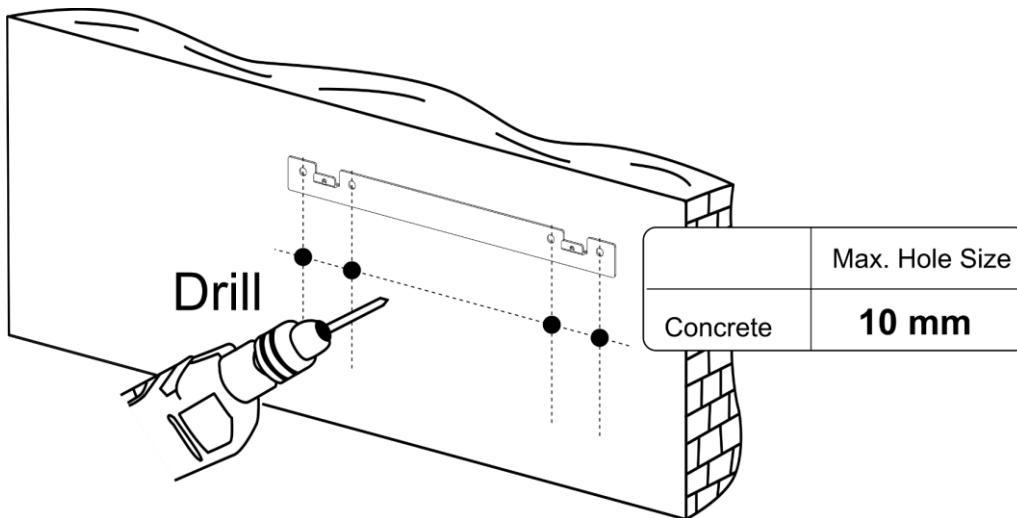
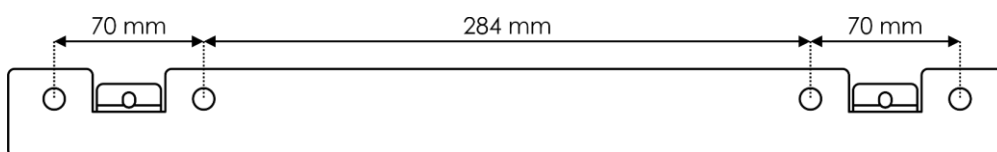

Fig. 16
Fig. 17
- 03) Drill pilot holes at the 4 marked locations, as shown in Fig. 16 and Fig. 17.